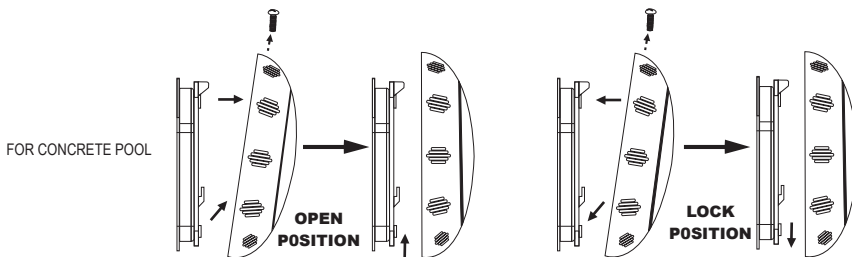

Figure 4.
10. Rotating Locking System ensures light is secured to bracket ,see Figure .4 (figure 5)